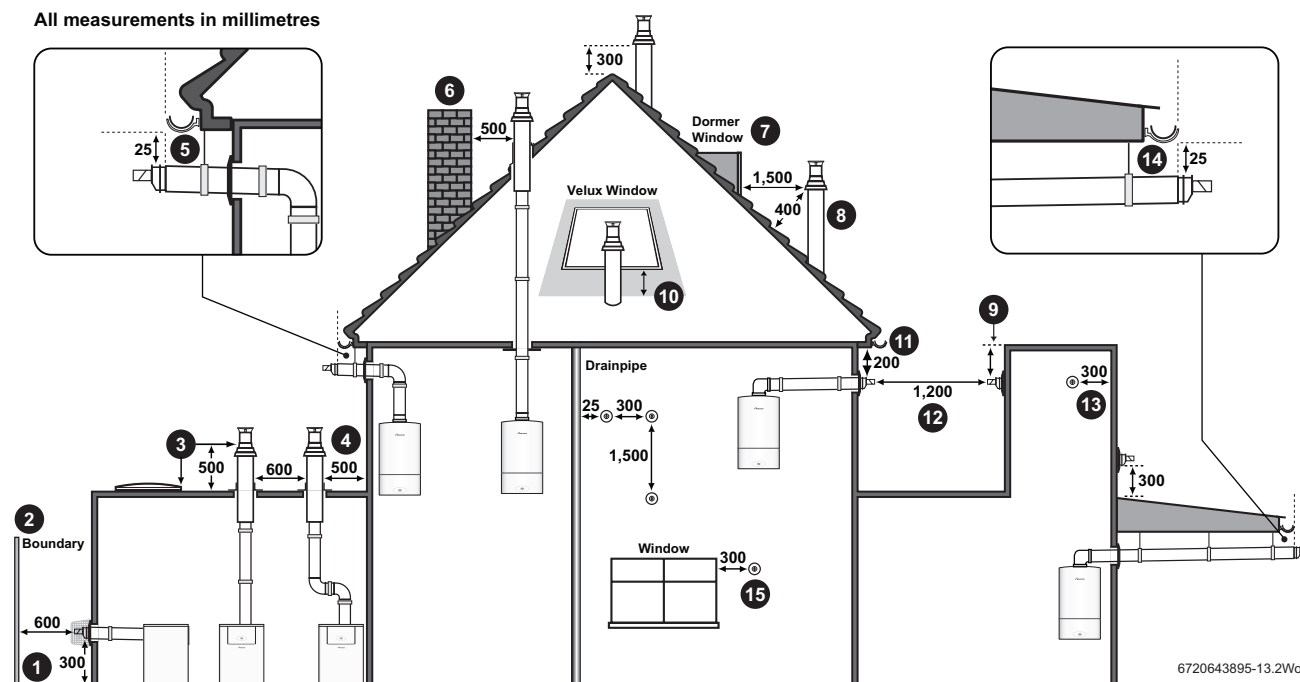

Fig. 19 Flue terminal positions
- ▶ Refer to figure 19 for all concentric flue terminal positions unless the flue position is specified on the figure above "Plume terminal positions".